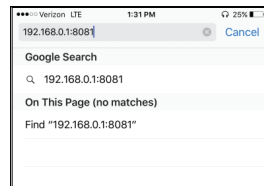

Figure 10: xPicoWiFi Web Address
5. Once connected, open a browser window and type “192.168.0.1:8081” in the address bar. Press the Enter key. See Figure 10.